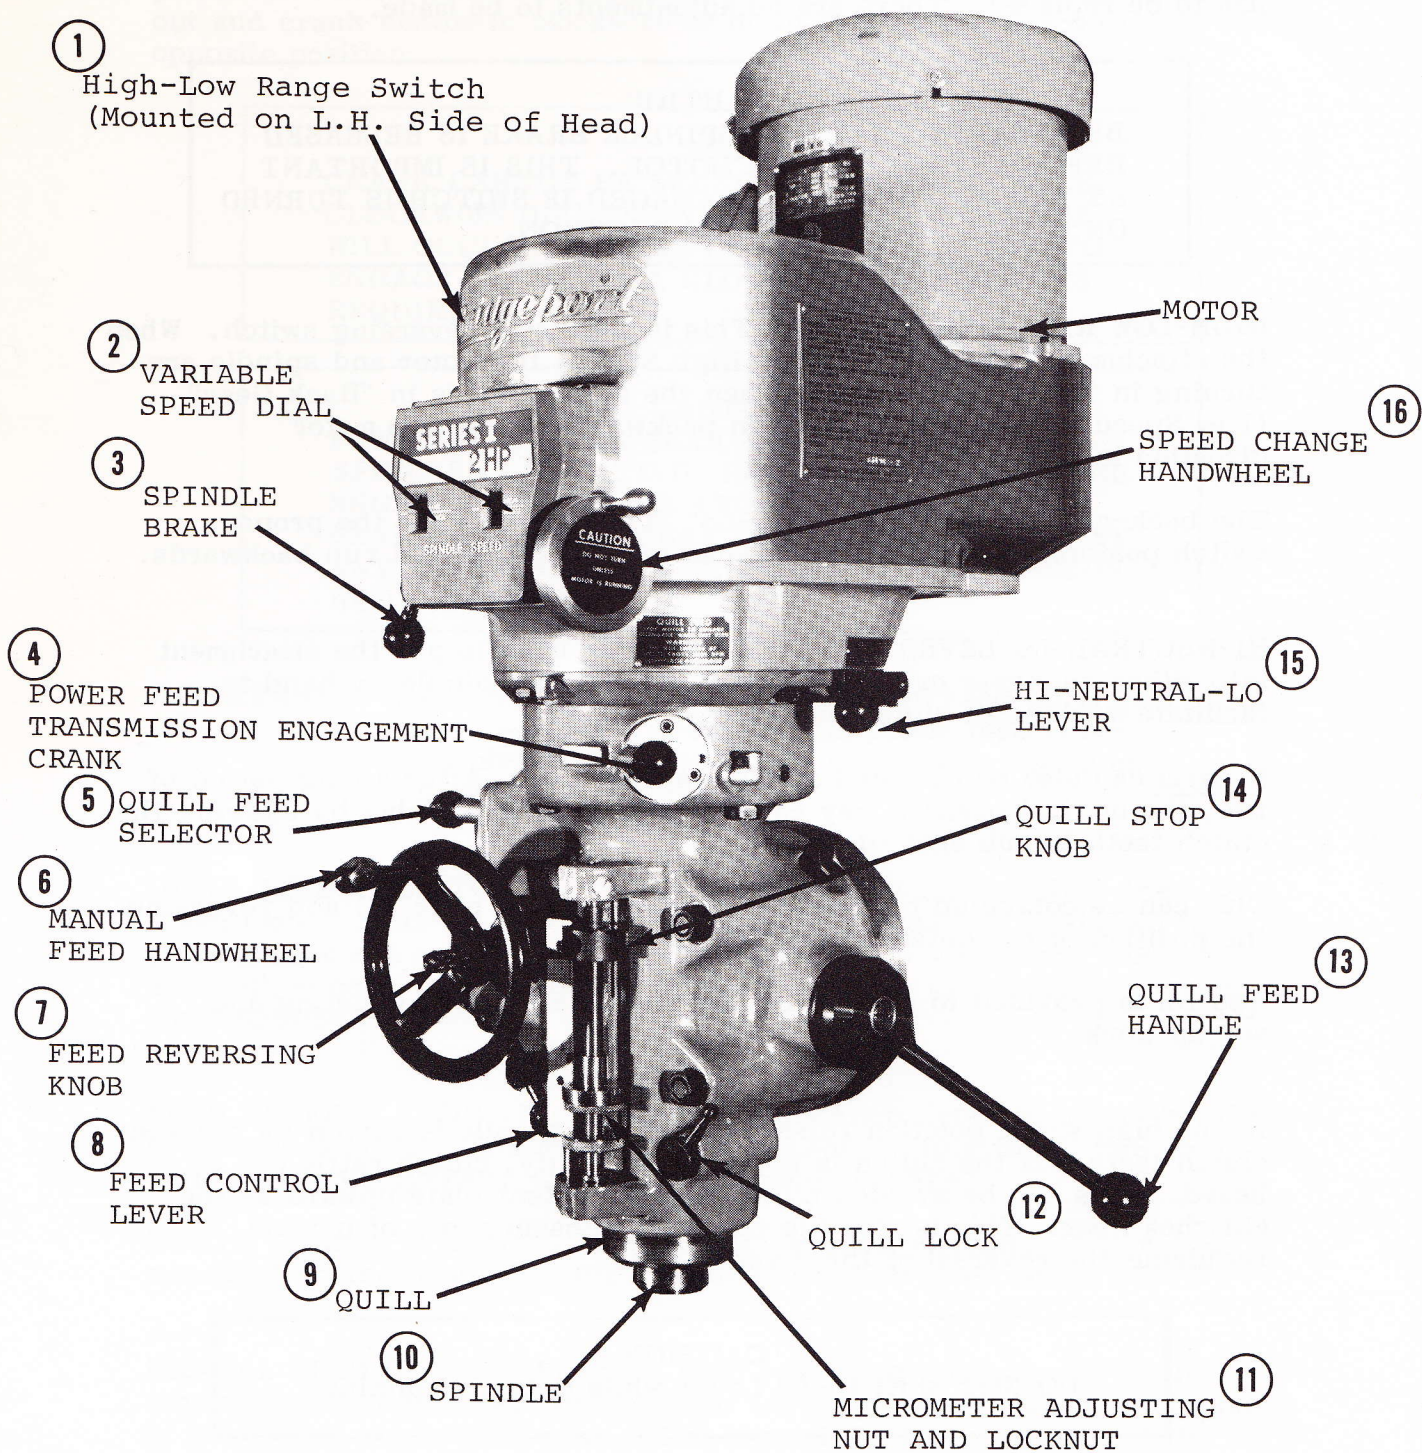
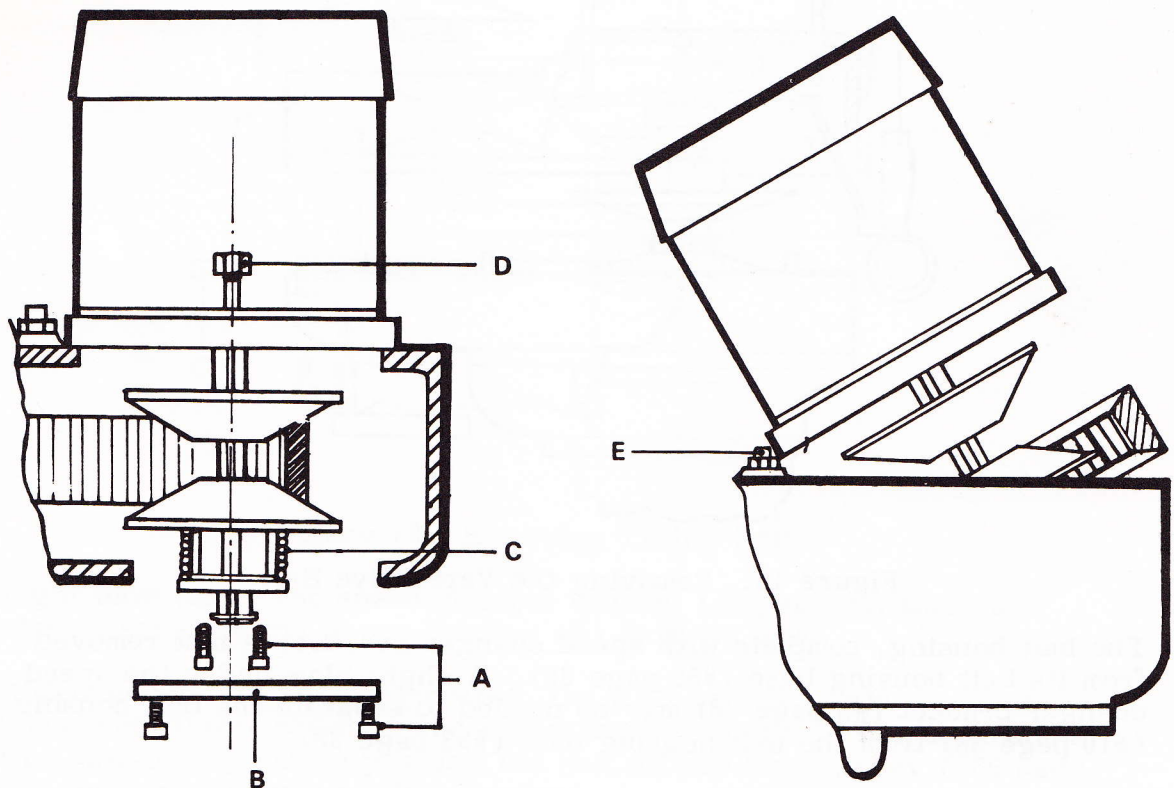
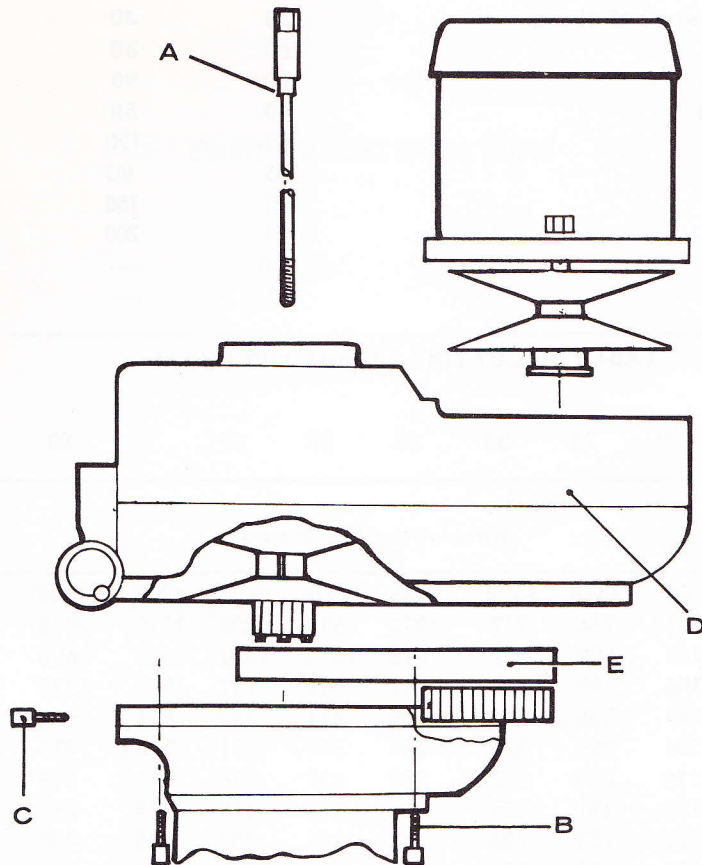

Figure 10. 2J Milling Attachment
Figure 11. Removing the Motor (Side View)
Figure 13. Removing Timing Belt
SPEED CHANGE HANDWHEEL (16, Figure 10): DO NOT attempt to change spindle RPM unless the motor is running. Dial speeds will only be approximate. Belt wear will cause a slight variation in speeds from what is indicated on the dial.
SPINDLE BRAKE (3, Figure 10): Brake lever can be moved in either direction to stop spindle; however, when locking spindle, lever should be moved to right or left and then raised. When brake is worn out it has to be replaced. There are no adjustments to be made.
POWER FEED TRANSMISSION ENGAGEMENT CRANK (4, Figure 10): Engages power feed worm gear. When lever is in right hand hole, the power feed worm gear is engaged. To disengage worm gear, pull knob out and crank handle in clockwise or down direction and move to opposite position.
Wear on the vari-drive belt will cause a slight change in the speeds to that shown in windows (#22 page 36) on the dial. This can be corrected as follows. Crank the speed change handwheel (#16, Figure 10) snugly against the high speed stop. (This will be near the 4200 reading on the dial.) Use a tachometer to determine the spindle speed, then turn the pivot stud (#16 page 38), after loosening the jam nut (Item #7 page 38) until the spindle speed registers 4200 on the tachometer; tighten jam nut.
REMOVING THE MOTOR (See Figure 11): Run the attachment to the bottom of either speed range and shut off the motor. This puts the vari-drive belt in the best position for disassembly.
2. Remove the cover (#76 page 36) (B, Figure 11) at the lower end of the motor shaft. Use two cover screws (#75 page 36) (A) to fasten the spring (#44 page 38) (C) on the lower end of the motor shaft, to the lower motor vari-drive pulley (#43 page 38). This will reduce the hazard of personal injury that is always present when a heavy spring is under compression. When the pulley, spring retainer (#45 page 38) and spring are securely fastened as a single unit, crank the speed change handwheel (#16 Figure 10) to top speed position.
3. Now remove the screws (#9 page 38) (D) that fasten the motor to the belt housing. The motor should be lifted slightly and pulled firmly away from the spindle and toward the rear of the belt housing. This will pull the vari-drive belt (#27 page 38) deeply into the spindle pulley (#25 page 38), providing the slack needed to ship the belt over the motor pulley (#43 page 38).
4. Now lift the motor high enough to rest the motor base GENTLY on the adjusting screw (#16 page 38) (E) seen directly in front of the motor flange. The belt can now be slipped over the lower pulley and the motor removed from the housing.
CHANGING TIMING BELT (Figure 13)
Complete the operation for removing the motor. Then put the Hi-Neutral-Lo lever (#15, Figure 10) in the Lo position, remove the drawbar (#14 page 38) (A, Figure 13) and lower the spindle.